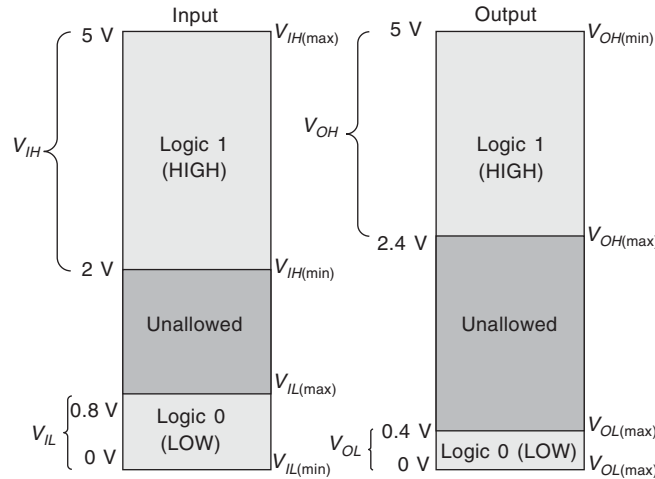

Fig. 9.9 TTL Logic Levels.
9.11 Determine the HIGH-level and LOW-level noise margins for TTL and CMOS by using the information in Figs 9.9 and 9.10.